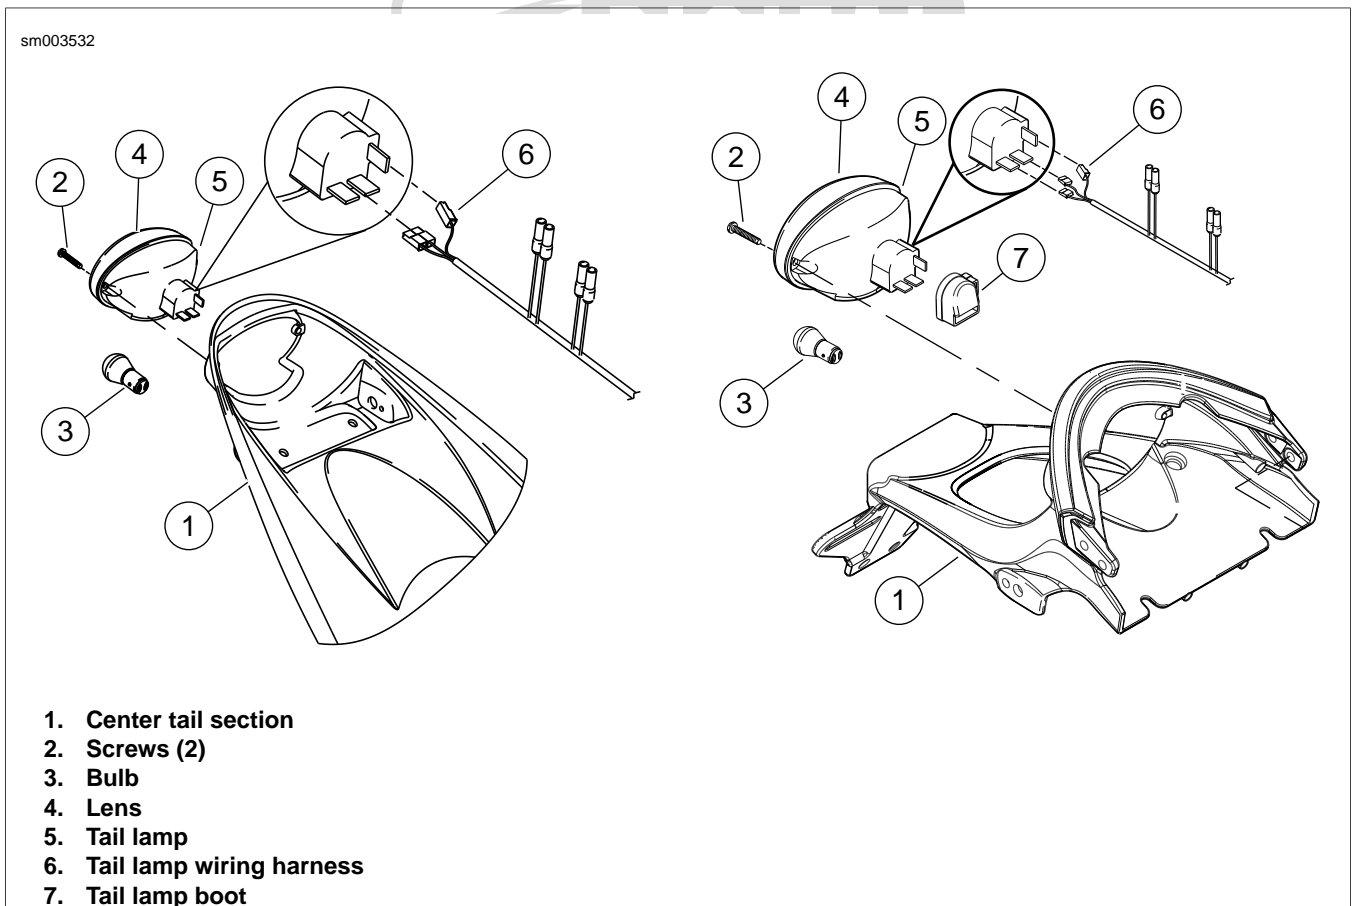

Figure 6-67. Tail Lamp Assembly: Firebolt/Lighting
2. See Figure 6-67. Remove two screws (2) to detach tail lamp lens (4) and tail lamp (5). If replacing bulb (3), turn counterclockwise and remove.
3. Disconnect tail lamp harness (6) connectors [93].
1. See Figure 6-67. Attach the tail lamp harness (6) connectors [93] and install boot.